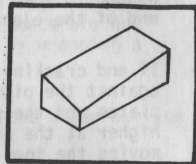

Fig. 19 - Corner Taper
61. Corner Taper (See Fig. 19) A corner taper (one corner thinner than the rest) is caused by a combination of a side taper and an end taper. First, fix the side taper by moving the guide plates as in paragraph 59. Second, fix the end taper by moving the guide plates as in paragraph 60.